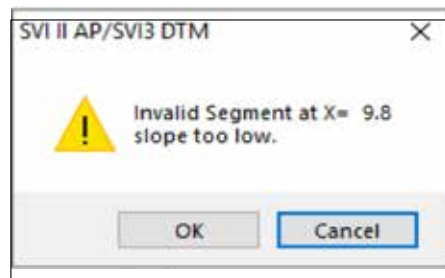

Figure 65 Invalid Segment Dialog
3. Enter values in the *Input Signal* and *Valve Position* fields from lowest to highest. If there is too drastic a slope change a dialog appears (Figure 65). Adjust values accordingly.